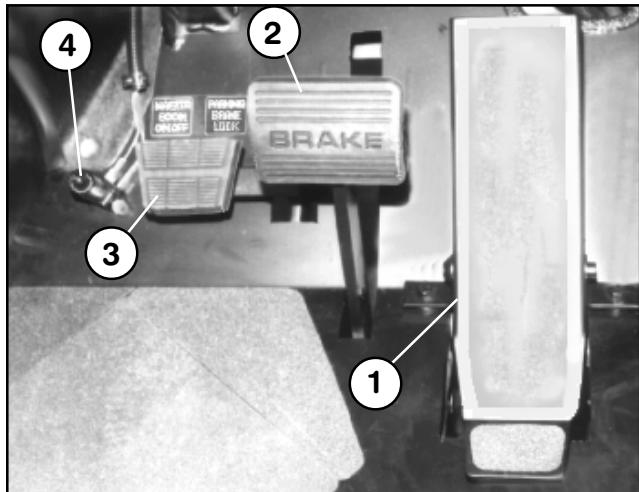

Figure 17
**TRACTION PEDAL:** (Fig. 17) Controls forward and reverse operation. Depress top of pedal to move forward and bottom of pedal to move backward. Ground speed depends on how far pedal is depressed. For maximum ground speed, fully depress pedal while throttle is in FAST.
**EMERGENCY/PARKING BRAKE PEDAL:** (Fig. 17) Functions as a parking brake and an emergency brake in situations demanding an immediate stop.
**BRAKE LOCK:** (Fig. 17) The small pedal to the left side of the brake pedal actuates the parking brake lock. To engage parking brake, fully depress brake pedal and depress brake lock which locks brake pedal. To release parking brake, fully depress brake pedal to release brake lock.
**REMOTE BOOM ON/OFF SWITCH:** (Fig. 17) Is in series with the MASTER BOOM ON/OFF switch; The operator must first turn on the Master Boom ON/OFF switch on the center console; then click on the Remote Boom ON/OFF Switch on the floor board.